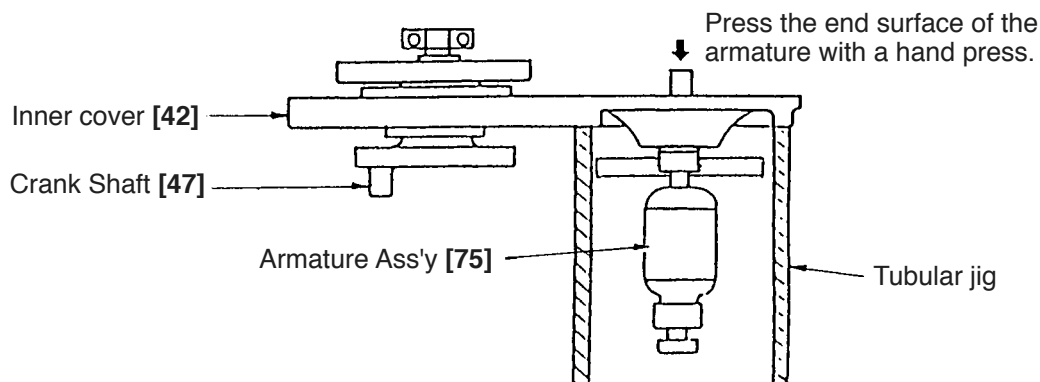

Fig. 4
- C. Remove the four Seal Lock Hex. Socket Hd. Bolts M5 x 16 [63] and three Tapping Screws (W/Flange) D4 x 25 (Black) [96]. Remove Handle (A) [85], Handle (B) [87], four Nylock Bolts (W/Flange) M5 x 12 [105] and Back Cover [82]. Remove the six Seal Lock Hex. Socket Hd. Bolts M6 x 45 [60], Gear Cover [38] and Counter Gear [65]. Insert a flat-blade screwdriver or a similar tool into the air vent of the Inner Cover [42] and raise the Inner Cover [42]. Then the Inner Cover [42], Armature Ass'y [75] and Crank Shaft [47] can be removed as a single unit. At this time, be very careful not to damage the Fan [74].
- D. As illustrated in Fig. 4, support the Inner Cover [42] with an appropriate tubular jig, and push down on the end surface of the armature shaft with a hand press to separate the Armature Ass'y [75] from the Inner Cover [42].